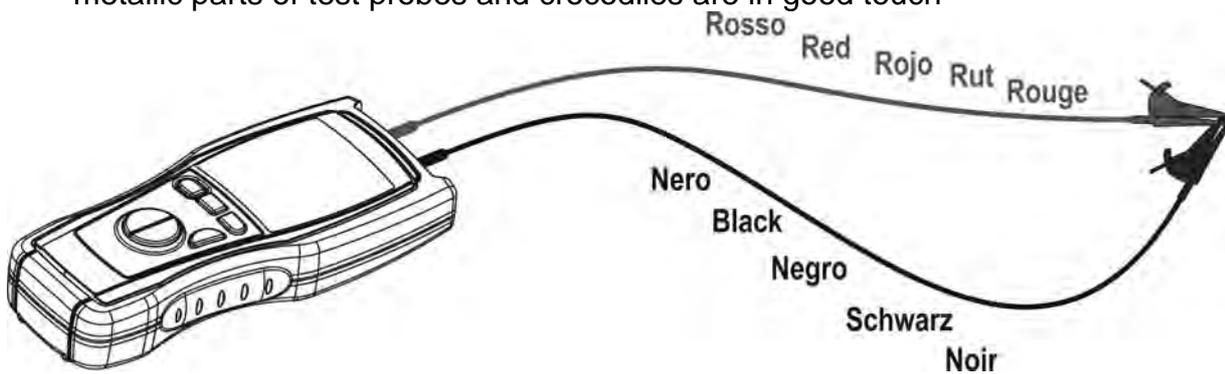

Fig. 5: Connection of the instrument's terminals during calibration procedure
- Short-circuit the cable ends with each other as shown in Fig. 5 making sure that the metallic parts of test probes and crocodiles are in good touch